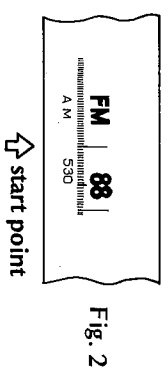

Fig. 2
- 2) Set the dial pointer to start point on dial scale as Fig. 2.